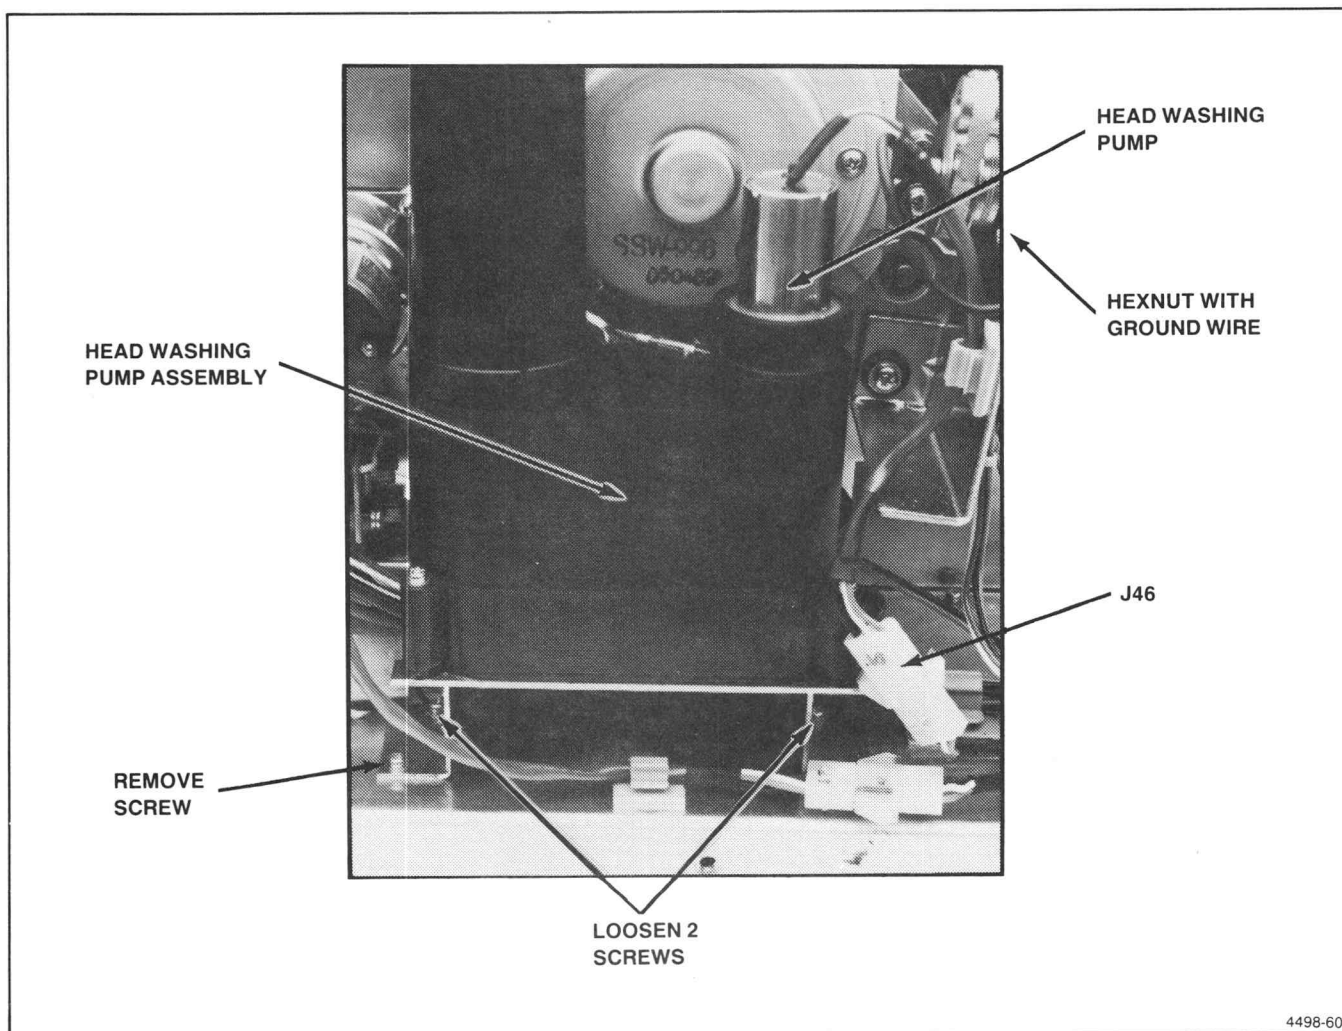

Figure 7-20. Head Washing Pump Assembly Removal.
5. Disconnect J46 to the head washing pump assembly. See Figure 7-20.